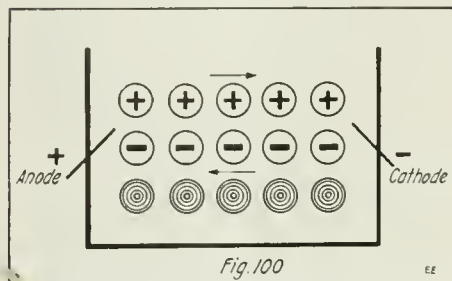

Fig. 100
*negative* constituents. When sodium chlorid (common salt) dissolves to saturation in water, a certain portion goes into solution without being broken up into its elements or having the size of the molecule changed; but a certain other large part splits up into sodium ions which are charged with *positive* electricity, and chlorin ions, charged with *negative* electricity, which exists intermingled in the solution with the undissociated sodium chlorid molecules. In the same way, when silver nitrat ( $AgNO_3$ ) is dissolved, a portion is broken up into silver ( $Ag$ ) ions and  $NO_3$  ions. The process is called *ionization*. Fig. 100 may represent ionized and non-ionized particles of  $NaCl$ . We have seen that elements and compounds of an opposite nature attract each other more than those of like properties; metals have affinity for non-metals, acids for bases. In a similar way *opposite* electricities attract, and vice versa; like repel like, or, put in another way, substances charged
An ion is, by derivation, a traveler. During the passage of a current those ions that travel towards the anode are called *anions* or upward travelers, those moving to the cathode are called *cations* (or Kations), or downward travelers (see Fig. 100). Anions are, therefore, metallic or *minus* ions, while cations are metals or *plus* ions, their destination giving the prefix of their names. These terms were assigned by Faraday about 1833. He thought the electric current produced the ionization, but Arrhenius, a Swedish chemist, in 1887, announced the present theory, namely, that the act of dissolving an electrolyte produces the ionization, and that the current, whenever it is applied, simply sets the ions in motion toward their respective electrodes. On arrival there, they part with their charges of electricity and become atoms or atomic groups (radicals and molecules).